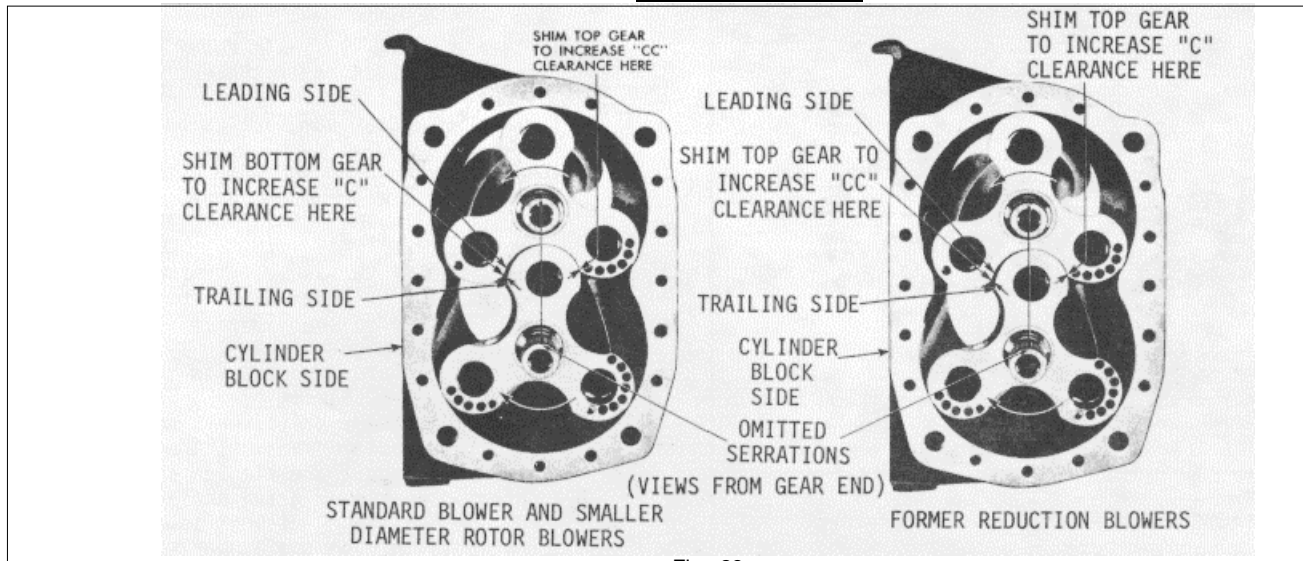
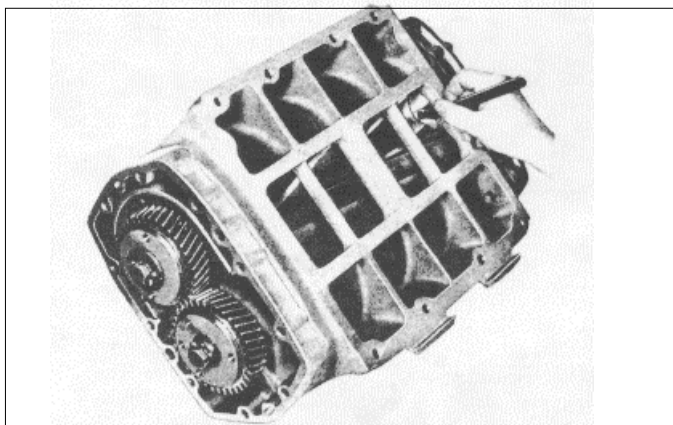

Fig. 23
Fig. 24
- (d) Place installer J 6270-7 on top of the bearing and tap the bearing straight on he shaft and into the rear end plate as shown in Fig. 23.
- (6) Make a preliminary check of the rotor-to-end plate and rotor-to-housing clearances at this time with a feeler gauge as shown in
- (7) Install the blower rotor timing gears on a standard blower or a smaller diameter rotor blower as follows:
- (b) Rotate the rotors to bring the omitted serrations on the shafts in alignment and facing the top of the blower housing (Fig. 23).
Note: When rebuilding a blower with new rotors or new gears, first install the gears on the rotor shafts without the shims, then check the clearances between the rotors to determine the location and thickness of shims to be used; refer to Fig. 23.
- (2) After determining the amount one rotor must be revolved to obtain the proper clearance, add shims back of the proper gear as shown in Fig. 23 to produce the desired result. When more or less shims are required, both gears must be removed from the rotors. Placing a .003" shim in back of a rotor gear will revolve the rotor .001".
- (3) Install the required thickness of shims back of the proper gear and next to the bearing inner race and reinstall both gears. Recheck the clearances between the rotor lobes.
- (4) Determine the minimum clearances at points "A" and "B" shown in Fig. 24. Insert the
feeler gauges, as shown in Fig. 24, between the end plates and the ends of the rotors. This operation must be performed at the ends of each lobe, making twelve measurements in all. See Fig. 24 for the minimum clearances.